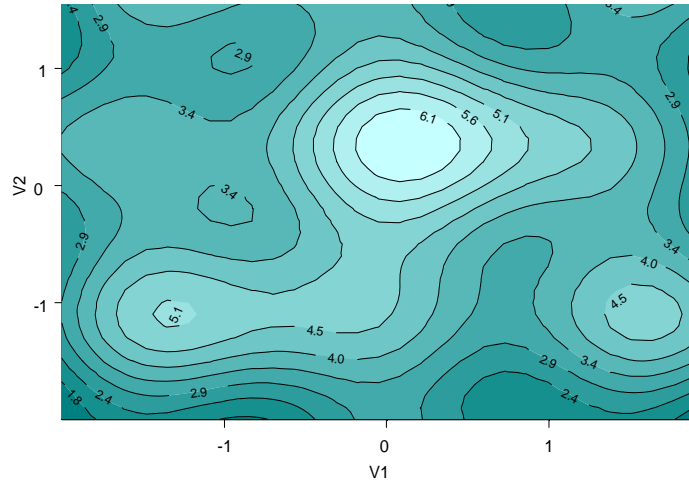

Figure 3.50: *Filled contour plot of the exsurf data.*
- Right-click the plot to display the shortcut menu and select **Contour/Fills** to open the **Contour Plot** dialog. Change the **Fill Type** to **2 Color Range**. Click **OK**. The resulting contour plot has colors between **Blue** and **Lt Cyan**, as shown in Figure 3.50.